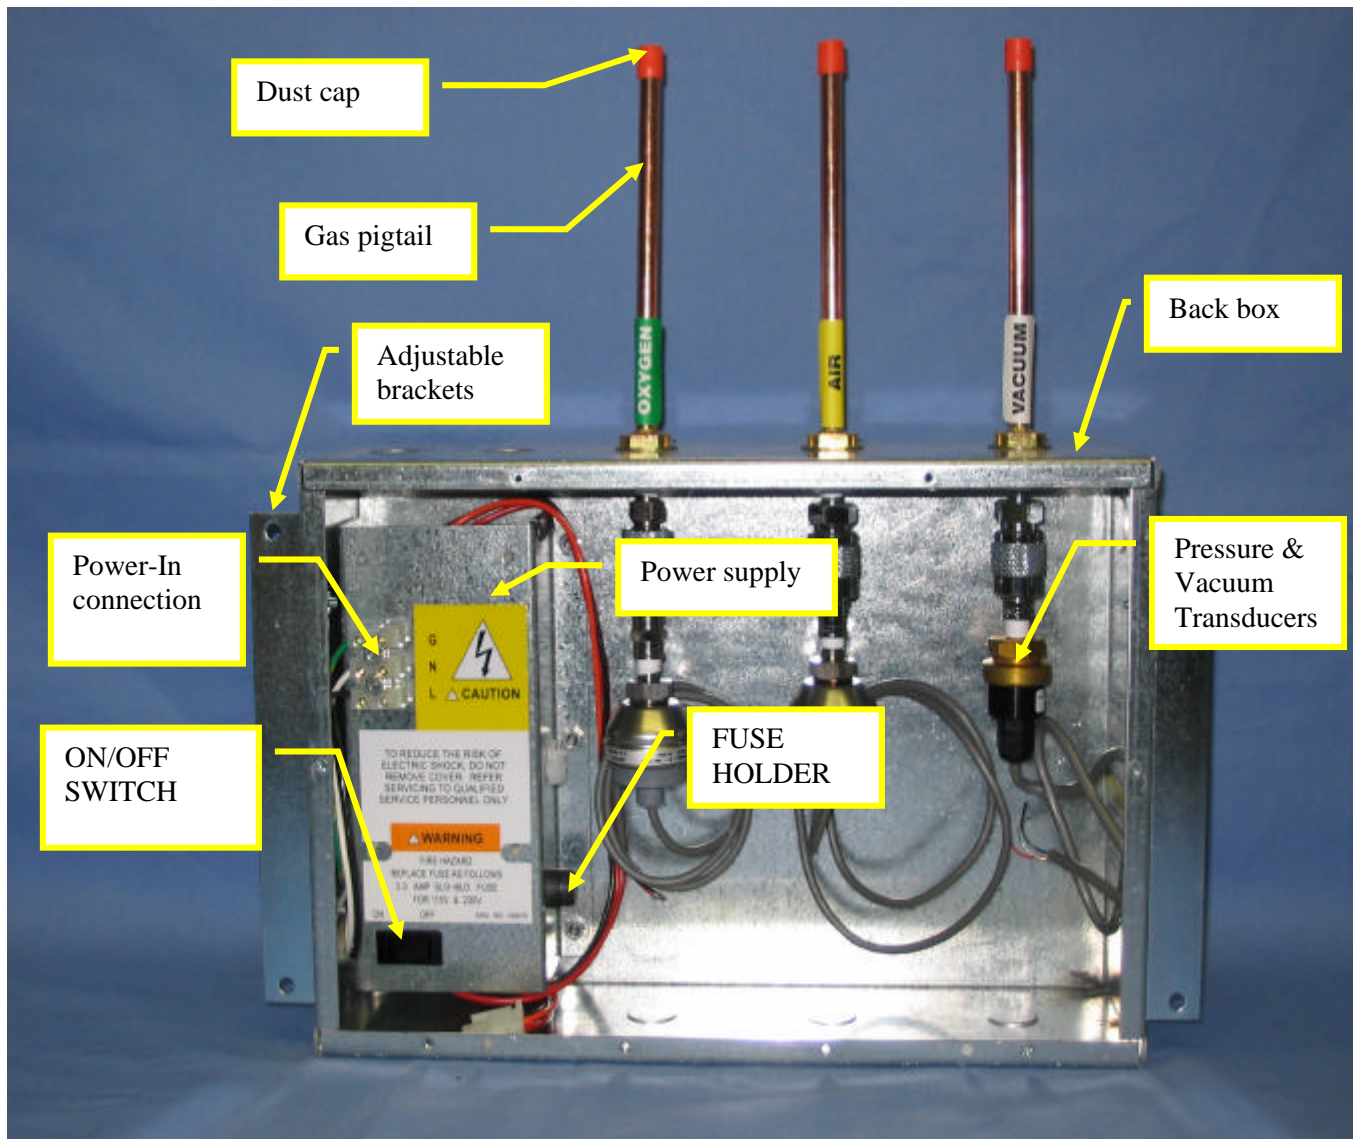

Figure 1 – Back Box with Pigtails and Power Supply
1.3.1.1 The Back Box (see Figure 1) contains the system power supply, adjustable angle brackets, and gas Pig tail(s).
1.3.1.2.1 Type 1(see Figure 1) contains copper pigtails to which an installer directly connects gas or vacuum.